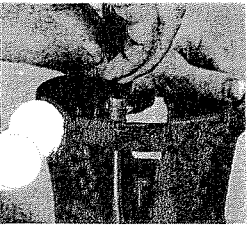

FIGURE 7
- Remove the two outermost socket head screws. (see Figure 7)